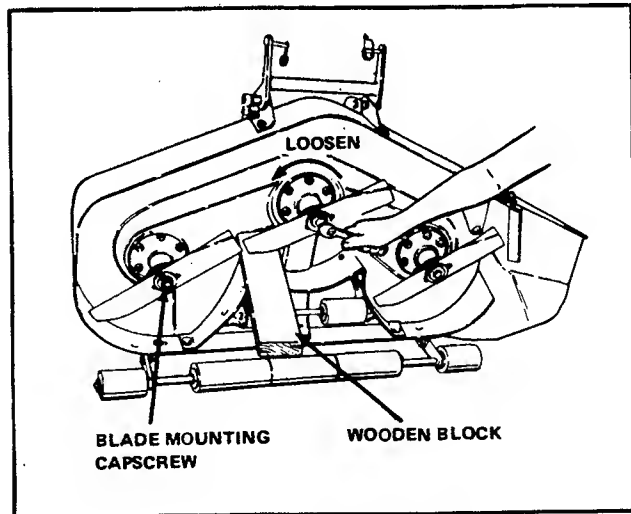

FIGURE 13 - Loosen Blade
3. To remove blade for sharpening, use wooden block to hold blade while removing its blade mounting cap screw (Figure 13).